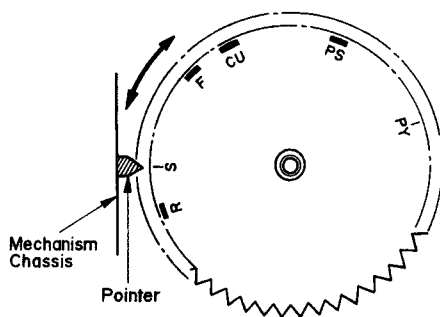

Fig. 4.1
- (a) Refer to Figs. 4.1 and 4.2.